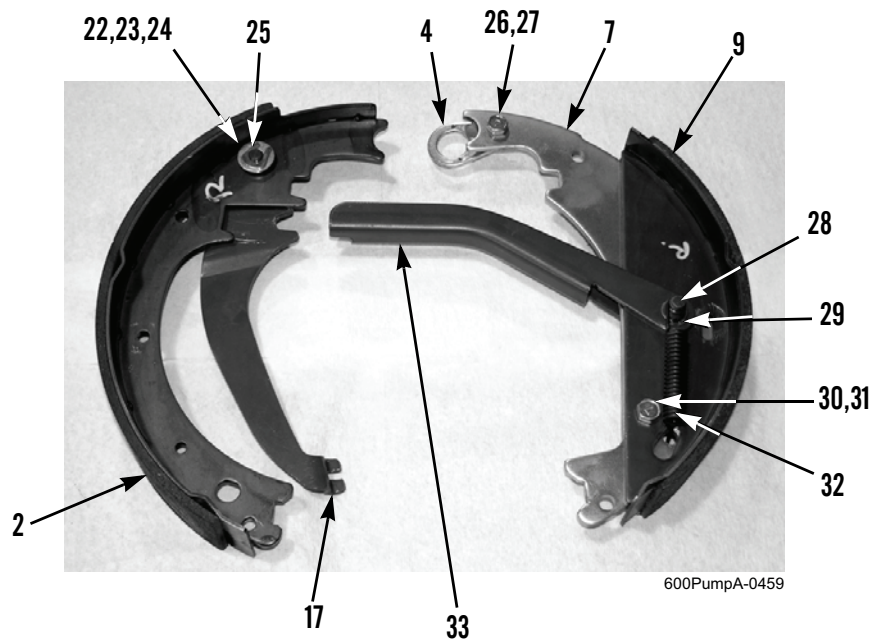

Figure 2. Right-Side Service Brakes.
11. Remove spring tension clip (Figure 2, Item 25), washer (Figure 2, Item 22), spring tension washer (Figure 2, Item 23), transporter washer (Figure 2, Item 24), and parking brake link (Figure 2, Item 17) from rear brakeshoe (Figure 2, Item 2). Discard spring tension clip and spring tension washer.
12. Remove locknut (Figure 2, Item 26), bolt (Figure 2, Item 27), and link (Figure 2, Item 4) from backing shoe lever (Figure 2, Item 7). Discard locknut.
13. Remove spring (Figure 2, Item 32) from pin (Figure 2, Item 28) and backing shoe lever (Figure 2, Item 7).
14. Remove locknut (Figure 2, Item 30) and capscrew (Figure 2, Item 31) from backing shoe lever (Figure 2, Item 7) and front brakeshoe (Figure 2, Item 9). Discard locknut.
15. Remove retaining ring (Figure 2, Item 29), pin (Figure 2, Item 28), backing shoe lever (Figure 2, Item 7), and parking shoe lever (Figure 2, Item 33) from front brakeshoe (Figure 2, Item 9). Discard retaining ring.